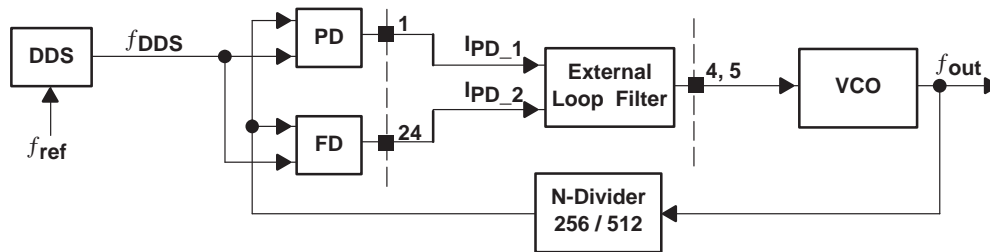

Figure 7. Basic PLL Structure
The phase-locked loop (PLL) of the TRF4900 consists of a phase detector (PD) and a frequency acquisition aid (FD) (including two charge pumps), an external loop filter, voltage-controlled oscillator (VCO), and a programmable fixed prescaler (N-divider) in the feedback loop (see Figure 7).